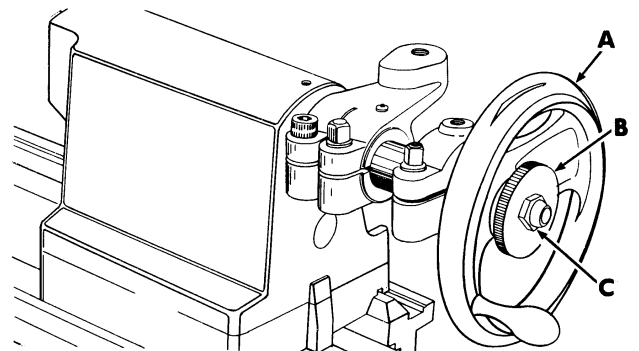

Figure 3
8. Assemble key, tailstock handwheel (A, Fig. 3), washer, knurled knob (B) and lock nut (C) on ram screw. Tighten lock nut enough to permit knurled knob 1/2 turn for locking and unlocking purposes.